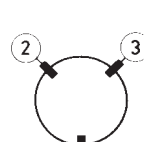

Fig. 4d
6. Remove wedge (1) and place it as shown in Fig. 4d or 5d.